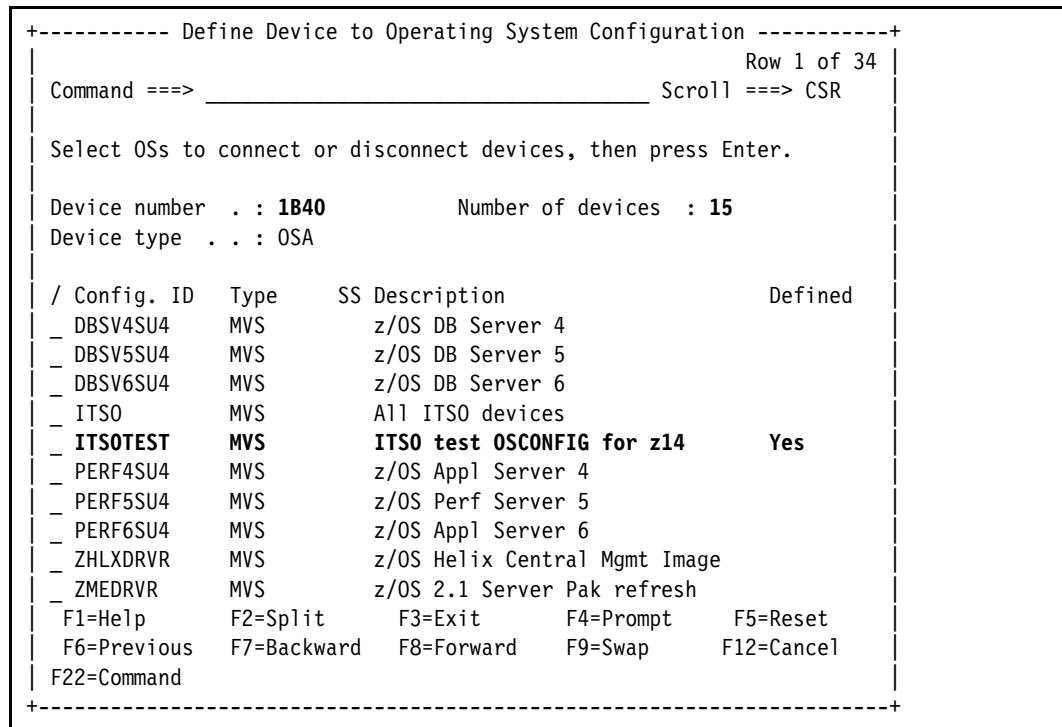

Figure 13-43 I/O Devices: Assign/Unassign Device to Esoteric, OSE
9. The Assign/Unassign Device to Esoteric panel is now displayed where you can specify which Esoteric (if any) you want the devices to be added to. We will only be adding the OSA/OSAD devices to the OS CONFIG ITSOTEST and not to any esoterics in this example (Figure 13-43). Press **Enter**.